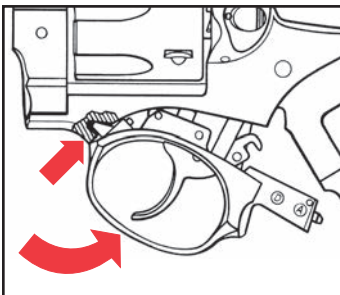
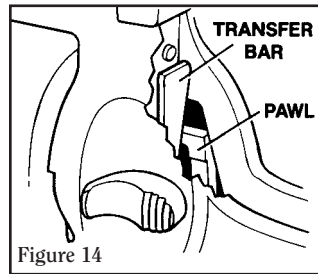

Figure 12
Figure 14
6. Use mainspring assembly to depress trigger guard lock plunger located inside frame at rear of trigger guard. Simultaneously pull down and remove trigger guard assembly (see Figures 12 & 13).
2. Hook front of trigger guard into recess in frame (see Figure 12, p. 21). Align pawl in its recess in the frame and be sure transfer bar is in correct position in rear of firing pin. Swing trigger guard upward into position in frame then allow latch to re-engage. If solid resistance is felt when swinging trigger guard into frame, or if trigger guard will not lock into position, re-check position of pawl and transfer bar (see Figure 14).